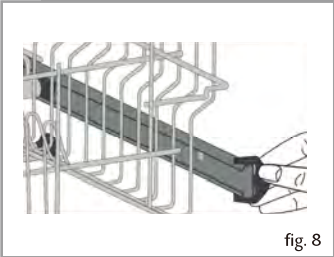

fig. 8
- Open the basket retaining clips, as shown in figure 8, by turning them to the side.